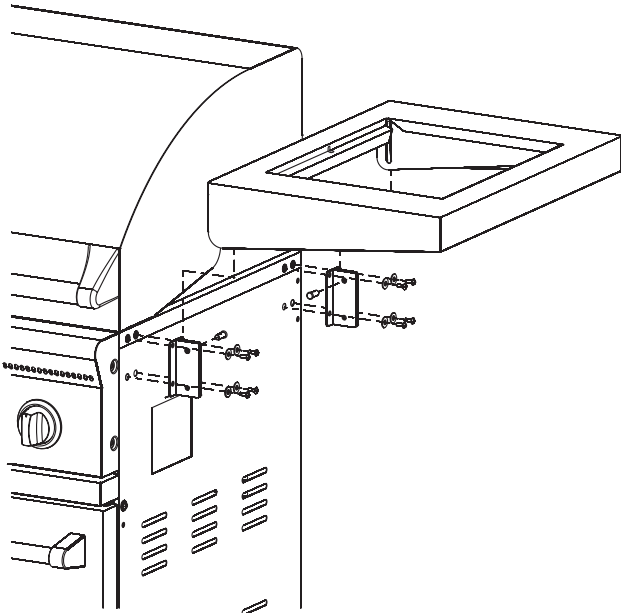

Figure 5
10. Pull clips off the pin which attaches the side shelf mounting bracket to the side shelf and remove pin. Remove brackets from side shelves. Attach two side shelf brackets to each cart side with four (4) lock washers and 1/2" screws per side shelf bracket. **See Figure 5.**
11. Insert and attach side shelves into side shelf brackets with one pin and clip into the top opening on each side. **See Figure 5.**